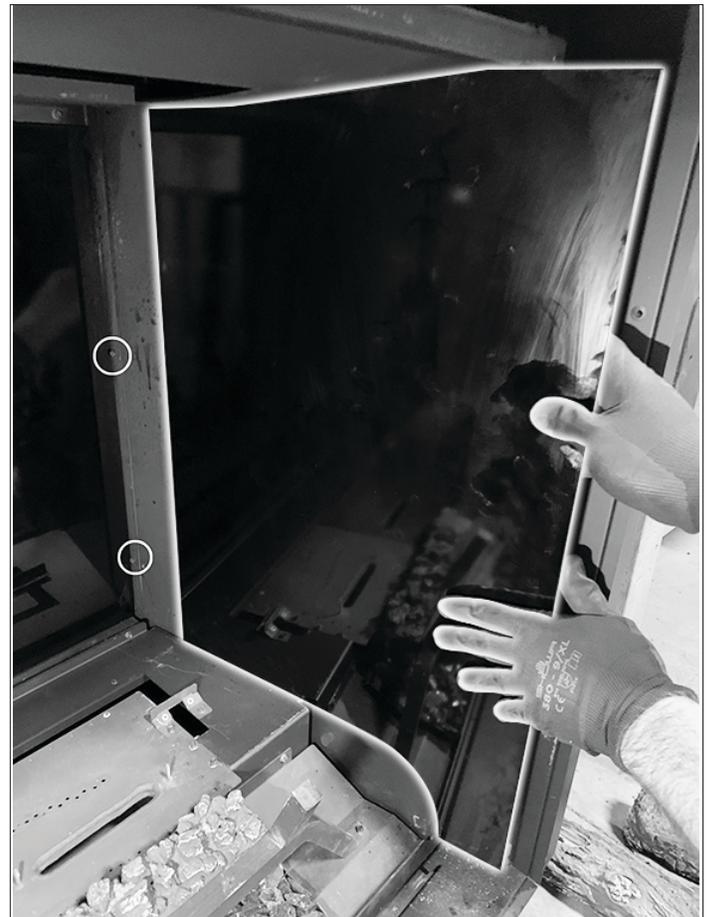

Figure 8.6, Side Black Glass Panels Installed
2. Install side black glass panels. Carefully slide the panel on the main log support until you reach the screws at the back of firebox as shown in Figure 8.6. Use your hand to carefully pull the rear of the side panel around the screws.